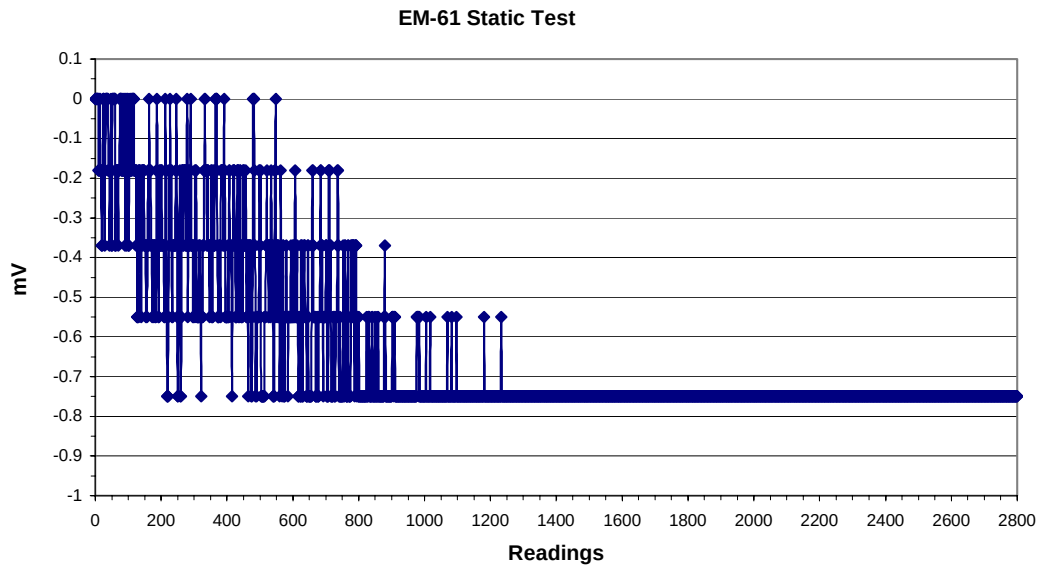

**Figure F.1 Instrument Warm Up**
(1) Figure F.1 illustrates drift typically seen in the warm-up period for an EM61.